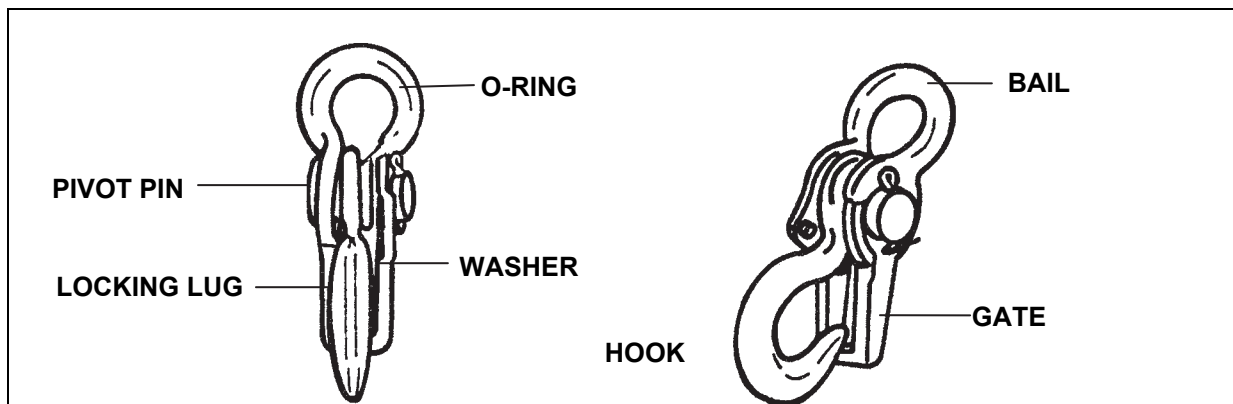
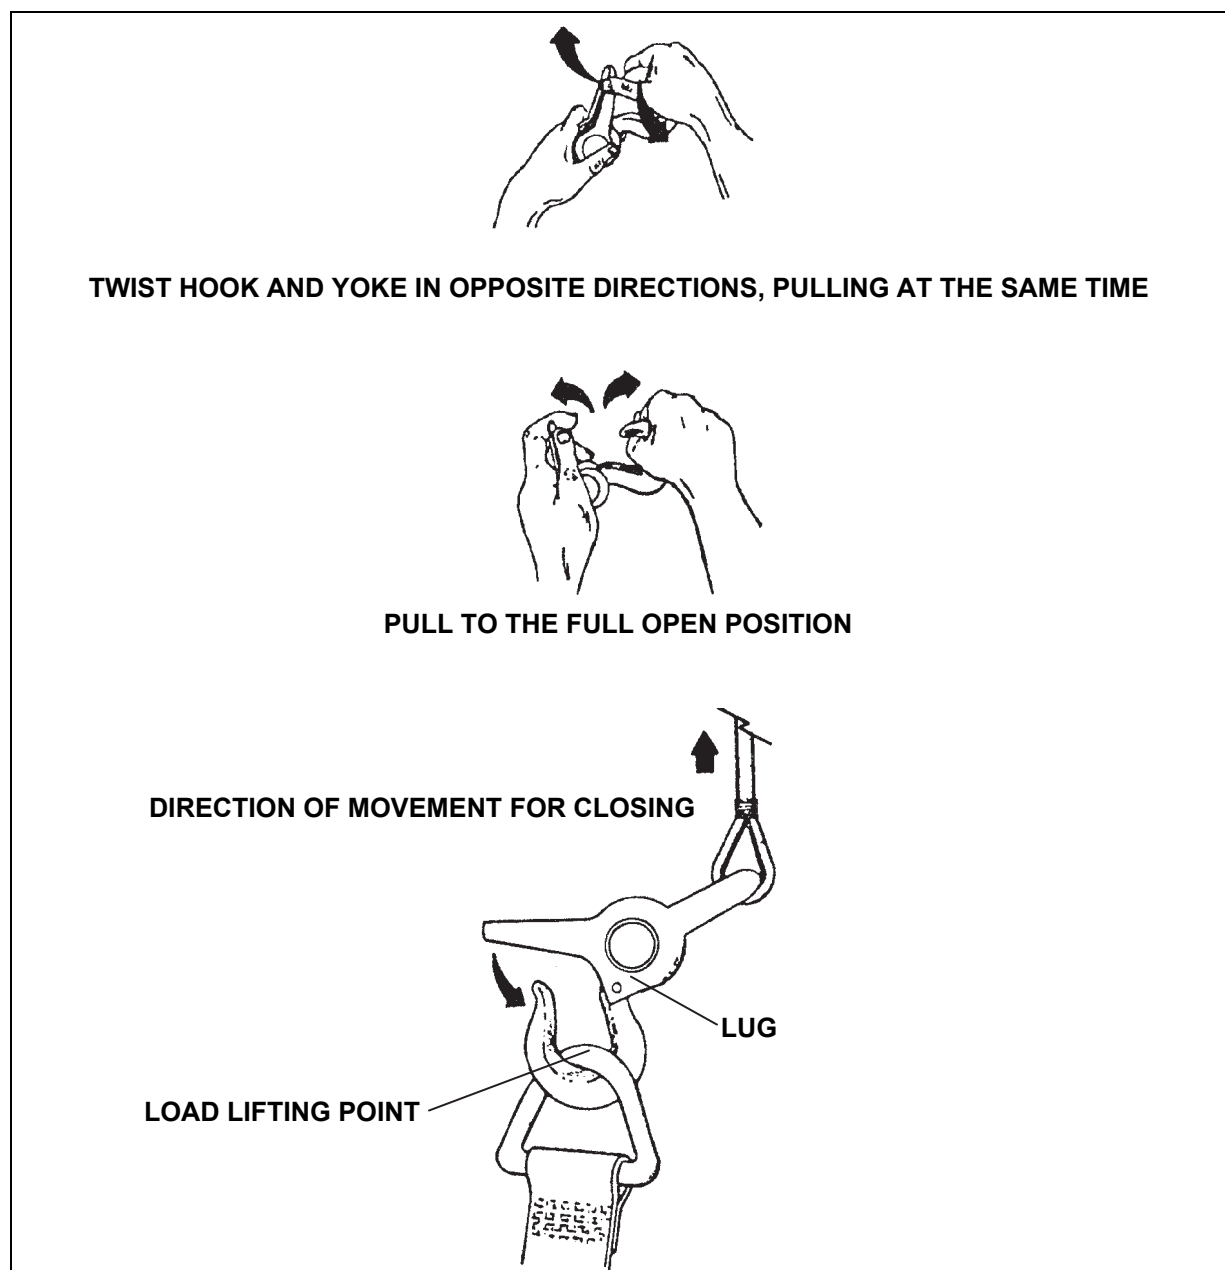

Figure 9-10. Safety Hook
Figure 9-11. Operation of Safety Hook
- **Safety Hook Operation.** The safety hook is the only moving part of the hoisting sling assembly legs (figure 9-10). You must be able to operate the safety hook before you can attach the hoisting sling to a load. Instructions for hook operation (figure 9-11) are as follows: